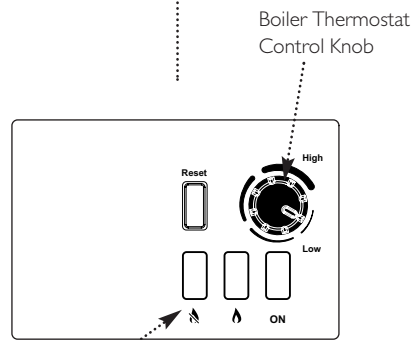

Fig. 6
2. The lockout indicator light (  ) will be either flashing or permanently illuminated and the boiler will need resetting (Fig. 6).